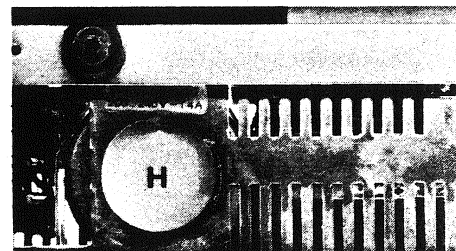

Fig. 2.8
2.9 Removing the power supply unit (Figs. 2.8 and 2.9)